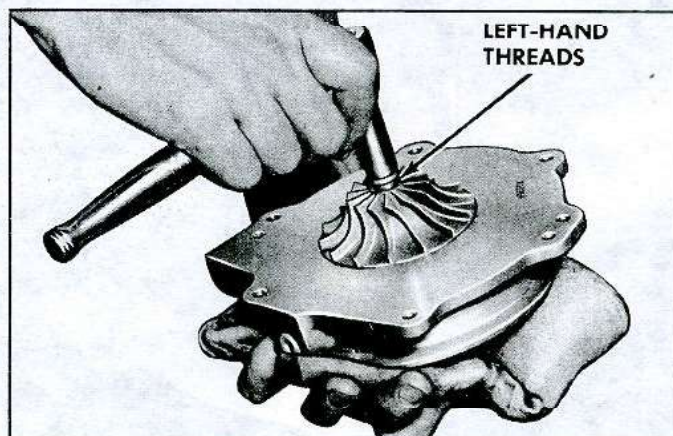

Fig. 40—Removing Impeller Nut
2. Hold the turbine wheel blades with a cloth and remove the self-locking nut (LEFT HAND THREADS) from the impeller end of the turbine shaft by turning clockwise (fig. 40), then remove the impeller washer.